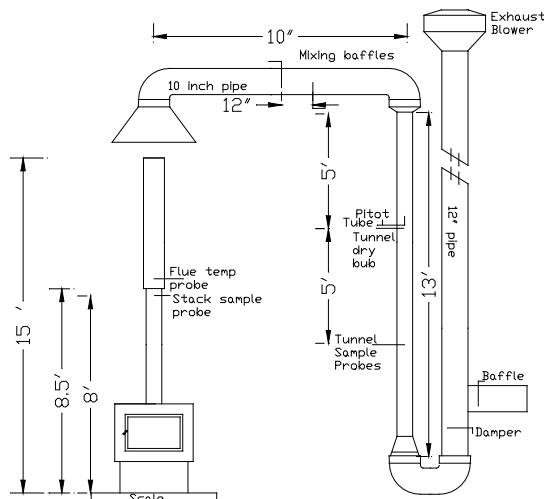

FIGURE 1
U.S. EPA has indicated that the depiction of the dilution tunnel (Figure 1) noted in all emissions test reports is showing an incorrect drawing. The current drawing is showing mixing baffles in the top portion of the tunnel, which was a requirement of EPA Method 5G.
ASTM E2515 replaced EPA Method 5G and part of the requirement was to remove the mixing baffles. Figure 1 was revised to remove the baffles. Two separate drawings were created, one to show a 6" diameter pipe for the sampling area and the second to show a tunnel with a 12" sampling area. Both tunnels are connected together and use one exhaust blower. The mixing baffles have not been removed from the tunnel and are now used as blast gates to close off the tunnel not being used for the test.